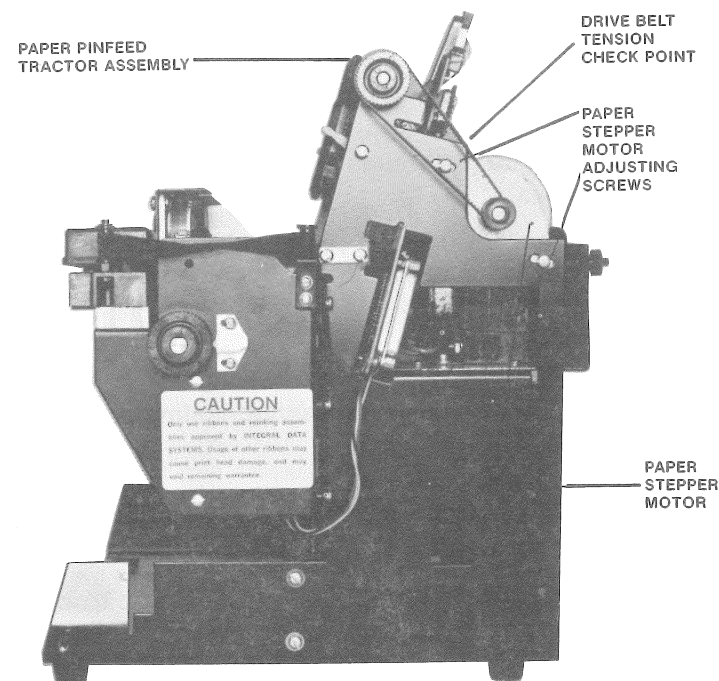

Figure 5-1
5.2.2.1 Print Head Drive Belt Adjustment (See Figure 5-1). The print head drive belt tension will normally not be required. However, if, after cleaning the head rails as outlined above, the left margin is not even, head belt tension should be adjusted. Proceed as follows:
- To adjust the belt tension, first loosen the two head motor mounting bolts shown in Figure 5-1. Belt tension can be increased by moving the motor toward the right side of the printer.